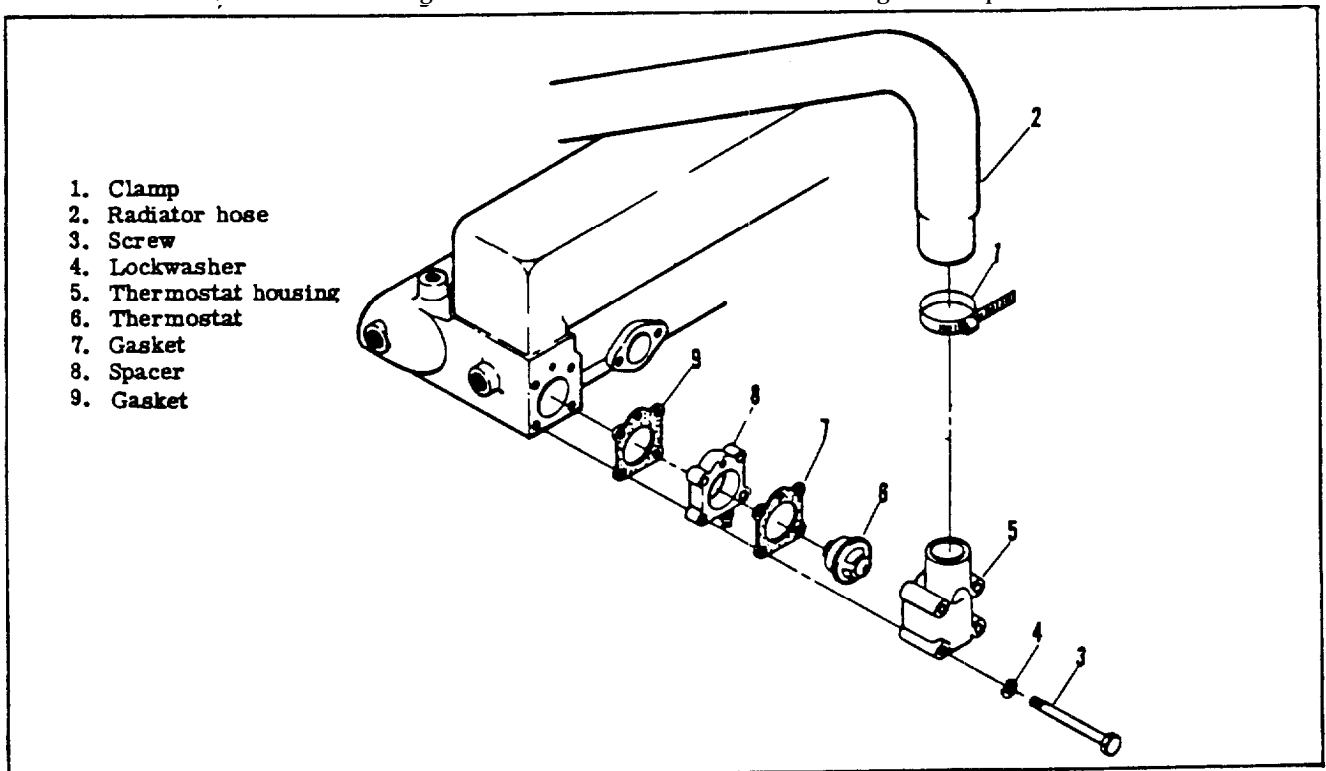

Figure 3-26. Coolant Thermostat, Removal and Installation
- (1) Remove left side fan guard (paragraph 3-31b. (3).
- (2) Refer to paragraph 3-31 and drain the radiator.
- (3) Refer to paragraph 3-70 and remove the coolant temperature transmitter.
- (4) Loosen clamp (1, figure 3-26) and remove radiator hose (2).
- (5) Remove screws (3) and lockwashers (4) to remove thermostat housing (5), thermostat (6) gasket (7), spacer (8), and gasket (9).